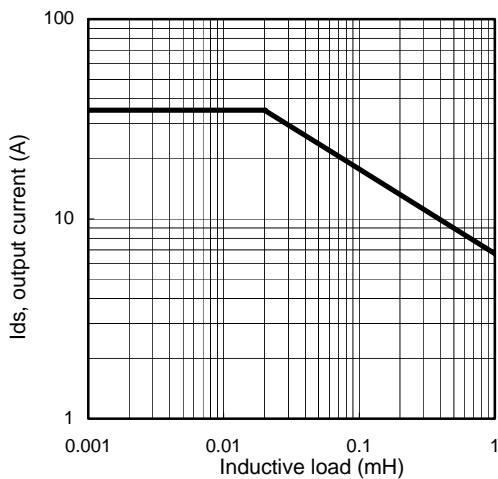

Figure 11 – Max. output current (A) Vs Inductive load (mH)
(1) Higher inductance is possible if maximum load current is limited - see figure 11